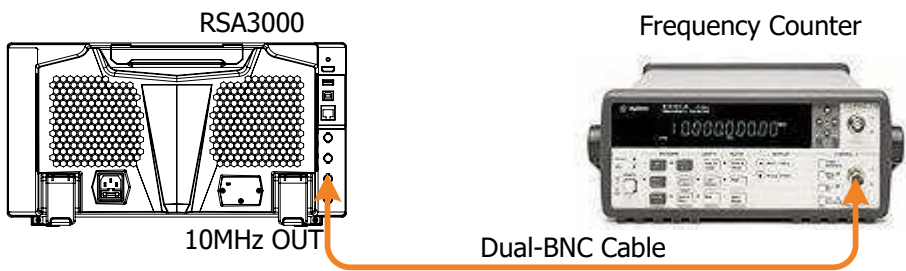

Figure 2-9 10 MHz Reference Output Accuracy Test Connection Diagram
- 1. Connect the **[10 MHz OUT]** terminal on the rear panel of the spectrum analyzer with the frequency counter, as shown in Figure 2-9.